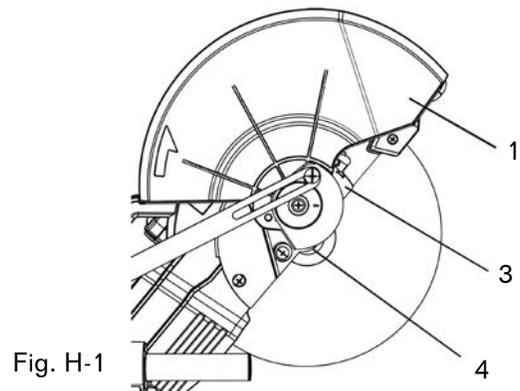

Fig. H-1
3. Remove the cover plate screw (2) with a Phillips screwdriver (Fig. H)
4. Raise the lower blade guard (1) to the uppermost position. (Fig. H-1)
5. Rotate the cover plate (3) back to expose the arbor bolt (4). (Fig. H-1)
6. Place the provided blade wrench over the arbor bolt (4).
5. Rotate the cover plate (3) and lower blade guard (1) back to its original position. (Fig. H-1)
6. Lower the blade guard and replace the cover plate screw (2) and tighten with a Phillips screwdriver. (Fig. H)
8. Be sure the arbor lock button (5) is released so the blade turns freely.
9. Remove the arbor bolt (4), the outer blade collar (6), and the blade (7). Do not remove the inner blade collar. (Fig. J)
10. Raise the lower blade guard (1) to the upright position to remove the blade. (Fig. H-1)